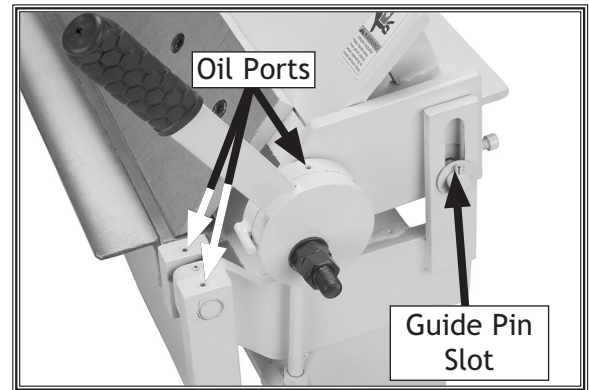

Figure 16. Lubrication points on one end of the pan and box brake.
- **Hinges:** There are four hinges on the M1043—two for the clamping leaf and two for the bending leaf. These hinges are equipped with oil ports (**Figure 16**). Use an oil can with 30W non-detergent machine oil, and insert 5-6 drops into each port; repeat this as needed or every week, depending on use. Make sure to wipe up any excess oil to avoid build up of dust and grime.
- **Clamping Leaf Guide Pins:** Apply a small dab of lithium grease to the guide pin slots (see **Figure 16**) once a week. If the brake is used continuously, you may need to lubricate this more often.